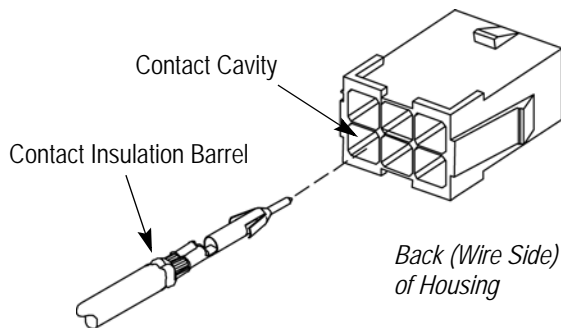

Figure 3
2. Grasp the wire-directly behind the contact insulation barrel-and push the contact straight into the cavity until it bottoms (there should be an audible click). Pull back lightly on the wire to be sure the contact is locked in place. See Figure 3.